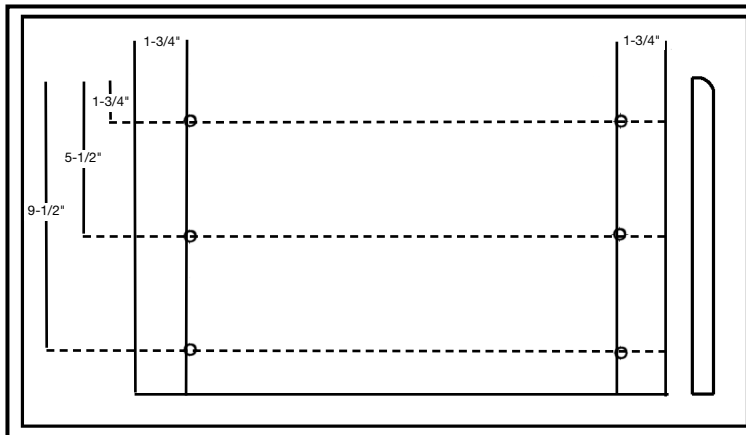
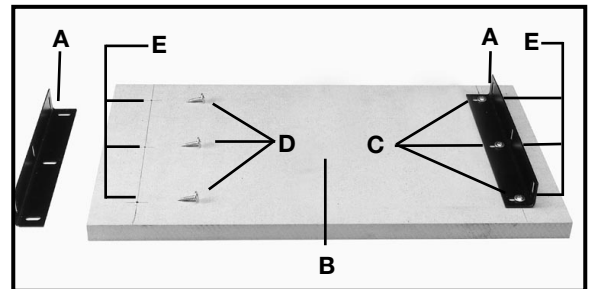
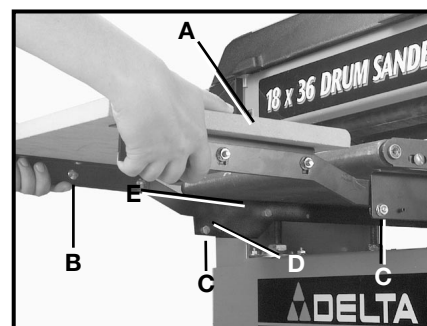
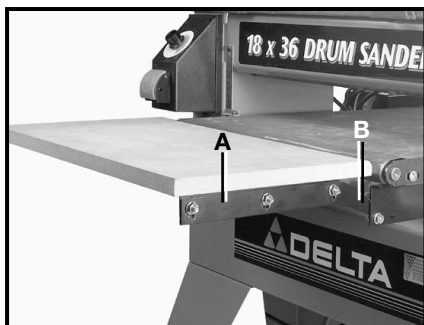

Fig. 2
Fig. 3
Fig. 8
Fig. 9
1. The table boards will require drilling six (6) 1/8" diameter x 3/8" deep holes in the bottom of the each board at the locations illustrated in Fig. 2 and shown as (E) Fig. 3.
2. Position the angle brackets (A) Fig. 3 on the table board (B) and over drilled holes. Place the rounded slots (C) against the board, over the holes. Fasten the angle brackets in place using six wood screws (D). Fasten the other angle brackets to the other table board in the same manner. **NOTE: Do not tighten screws all the way, because of further adjustments later.**
8. Install the table assembly (A) Fig. 8 by positioning the support arms (B) over the screws (C) and aligning slots (D) in support arms (B) with screws (E). Hook in place (Fig. 9). Install the other table in the same manner.
9. Adjust the angle brackets that were not completely tightened in Instruction #2 (A) Fig. 3, until the support arms (A) Fig. 9 fit against the support brackets (B) Fig. 9. Tighten the six (6) wood screws that attach the angle brackets to the table board. Repeat for the other table board.